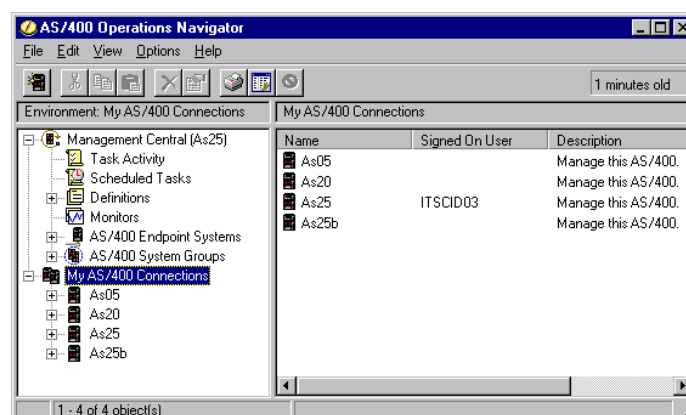

Figure 1. Operations Navigator main panel
Figure 1 shows the AS/400 Operations Navigator main panel. AS/400 Operations Navigator is a powerful graphical interface for Windows 95, Windows 98, and Windows NT clients. This allows Operations Navigator to fully integrate with the client desktop in the Windows environment. This is an advantage for administrators and end users who do not have an extensive knowledge of AS/400 control language (CL) commands.